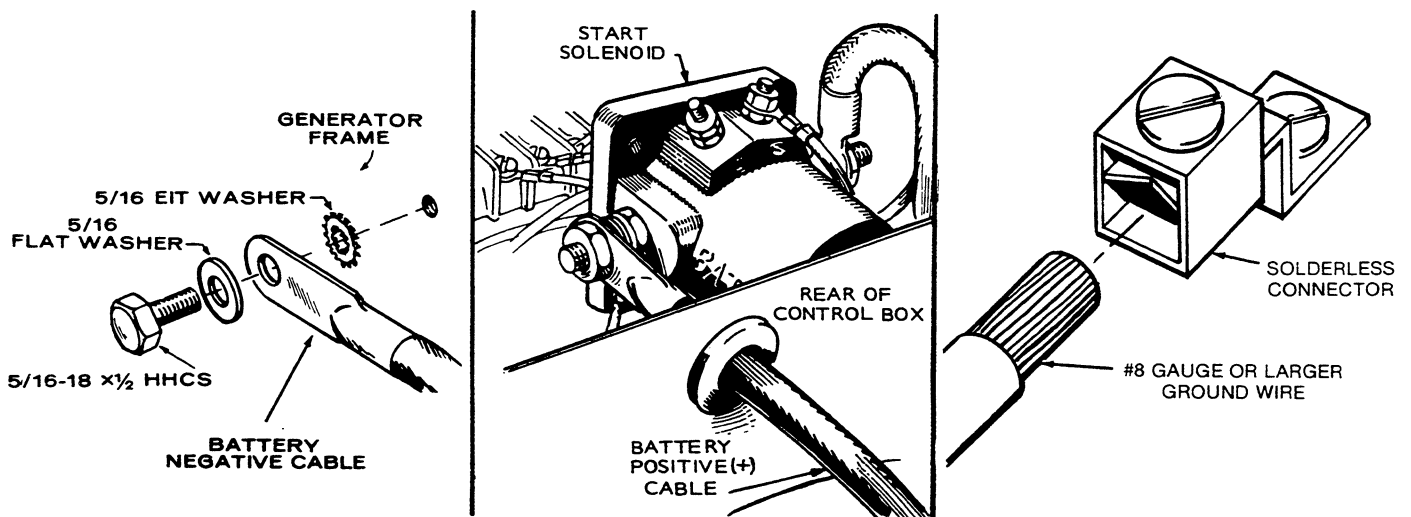

FIGURE 3. BATTERY AND GROUND CONNECTIONS
**WARNING** To prevent shock hazard, ground the set. Connect a #8 or larger wire between: (1) a separate ground pipe or rod penetrating into moist earth; (2) and the solderless connector located on the generator (on models not so equipped, to the battery ground stud on the engine). See Figure 3.